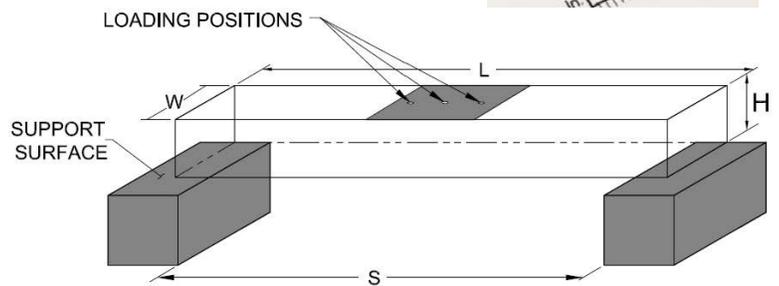

Figure 1: Detail of Bridge Configuration (not to scale). $S=300$ mm; $L=400$ mm (max); 50 mm $\leq H \leq 80$ mm; 30 mm $\leq W \leq 60$ mm.
- b. The bridge must span a gap (S) of 300-mm (**hint: bridge must be longer than 300-mm**), be no longer (L) than 400-mm, be no shorter (H) than 50-mm and no taller than 80-mm above the support surface, and be no wider (W) than 60-mm and not less than 30-mm. No part of the bridge may extend below the support surface (Figure 1).
- c. The bridge must be constructed to include a horizontal loading plane that provides support for three possible loading positions along the longitudinal axis of the bridge. The three loading positions are located at the center of the bridge and 50-mm to either side of the center of the bridge. (Figure 1). **NOTE: Load will be applied at the center of one loading position as described in section 4b.**
- d. The loading plane shall be horizontal and shall lie on the physical top of the bridge between 50-mm and 80-mm above the support surfaces (hint: top of the bridge must be taller than 50-mm but not exceed 80-mm in total height) (see Figure 1).